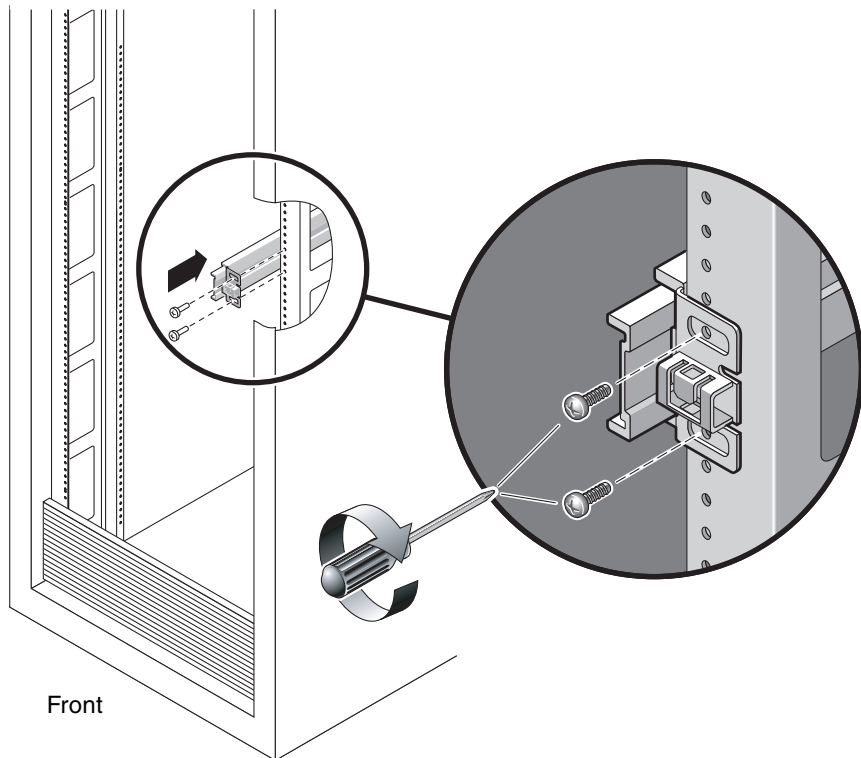

FIGURE 2-6 Mounting the Slide Rail
5. Attach a slide rail to the right front rack post (FIGURE 2-6).